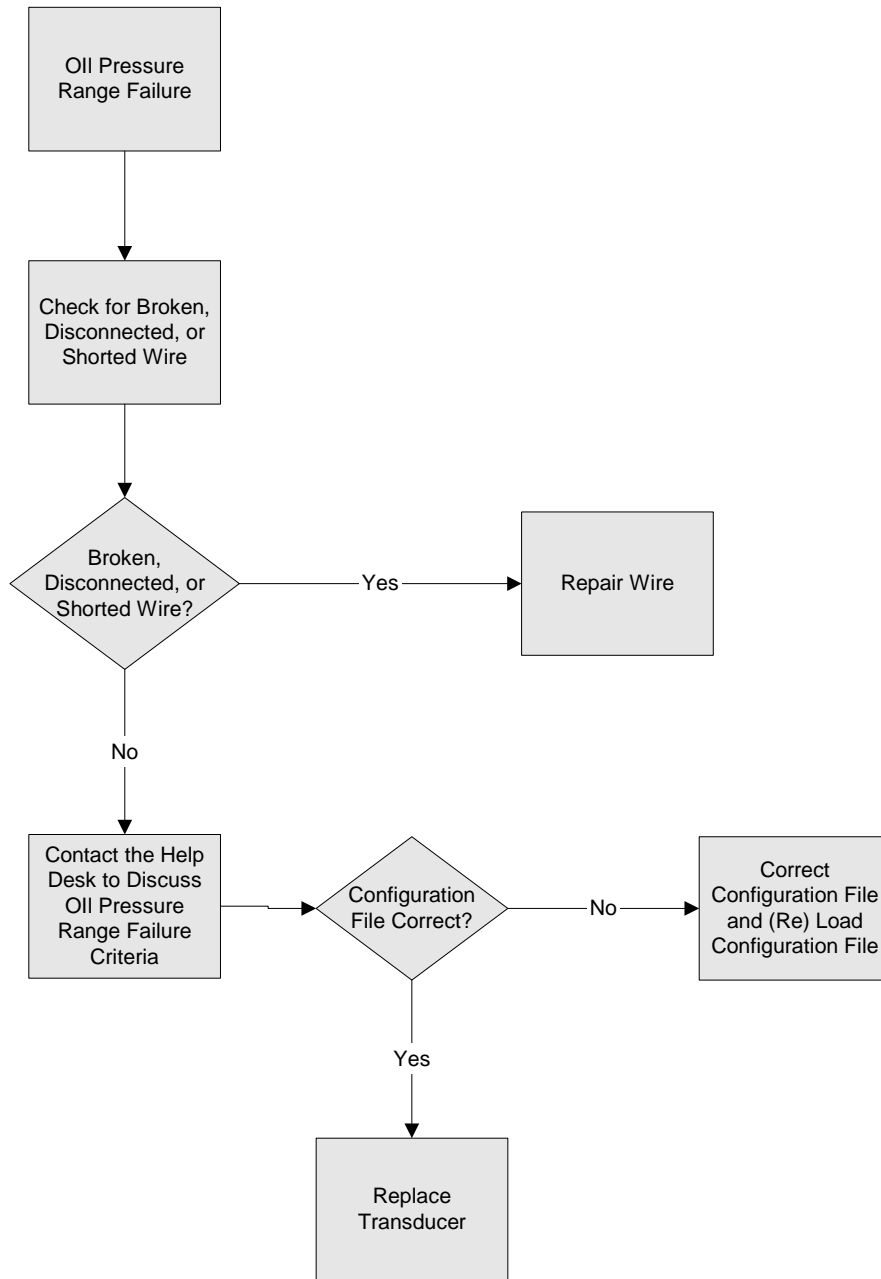

Figure 47: Oil Pressure Range Failure Troubleshooting
- d. Transducer Range Failure – Refer to Figure 47.